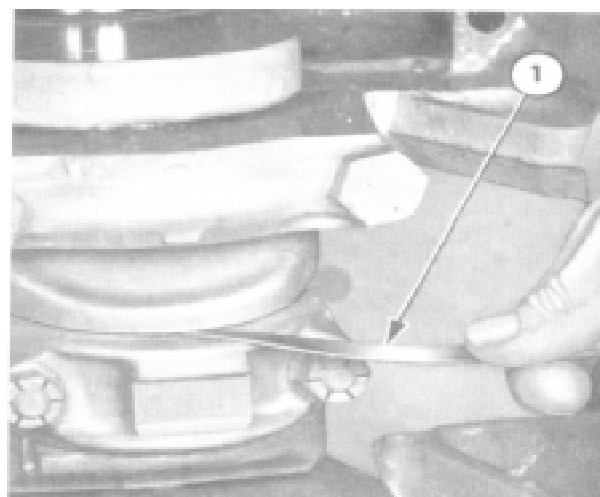

Figure 44
20. After the connecting rod assemblies have been installed check the side clearance of each connecting rod by inserting a feeler gauge between the side of the connecting rod and the crankshaft journal reference Figure 44. If the clearance is not within the limits as indicated, check the crankshaft journals dimensions and refinish or, if not within specifications, install a new crankshaft.